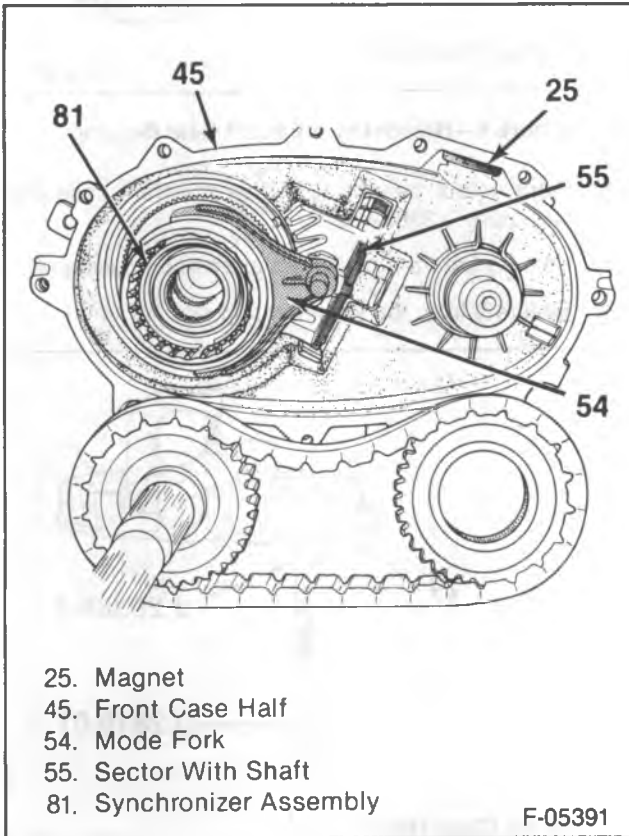
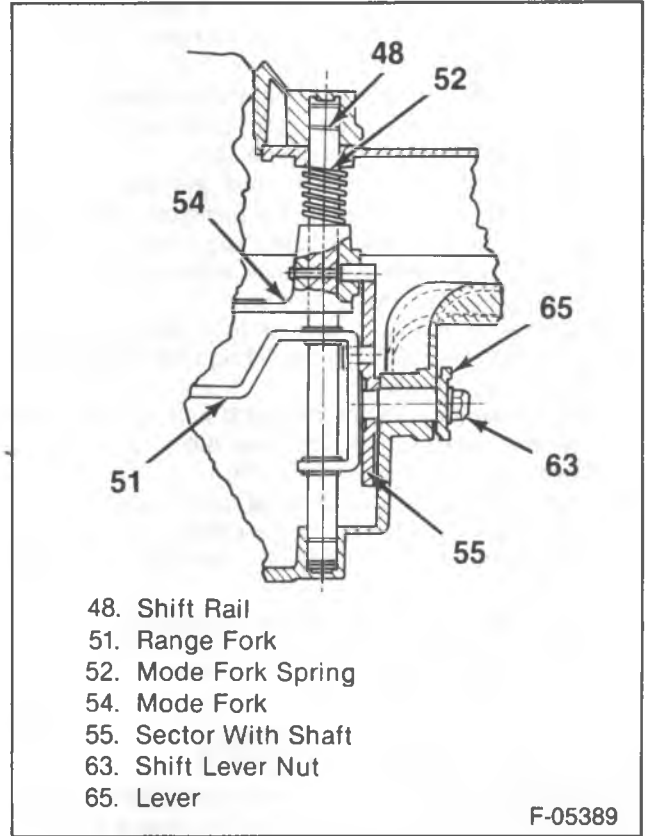
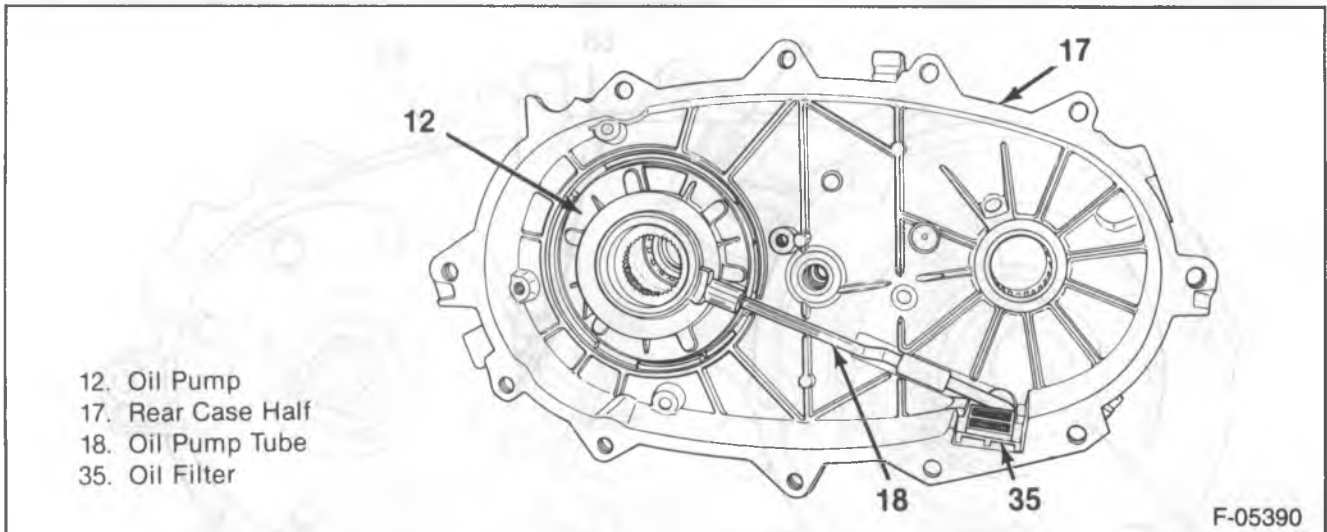
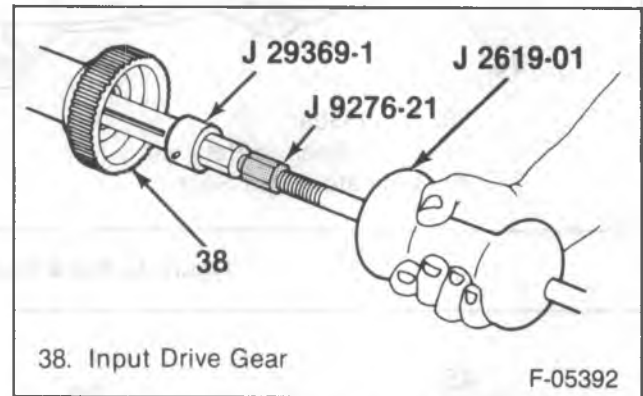

Figure 5—Mode Fork and Shaft Assembly
Figure 6—Shift Rail Assembly
Figure 7—Pump Housing Installation
Figure 8—Removing the Input Gear Bearing
Remove or Disconnect (Figures 5, 6 and 7)
1. Oil pump (12), pickup tube (18), O-ring (14) and pump pickup filter (35) from the rear case half (figure 7).
2. Fork shift spring (52).
3. Retainer (snap ring) (23) from the front output shaft (21).
4. Mainshaft (19), chain (58), and driven sprocket (22) from the front case half (45) as a unit. Mode shift fork (54) and shift rail (48) will be removed with the mainshaft.
5. Retainer (snap ring) (41) from the mainshaft (19).
6. Synchronizer assembly (81). Drive sprocket (20) from the mainshaft (19) (figure 5).
7. Range shift fork (51) and range shift hub (34) and sector with shaft (55) from the planetary carrier (36).
- It is necessary to rotate the sector with shaft (55) to obtain clearance when removing the range fork (51) (figure 6).
8. Shift lever nut (63), washer (64), shift lever (65), plastic washer (66) and the O-ring seal (67) from the front case half (45).
9. Input bearing retainer bolts (43) and input bearing retainer (44) from the front case half (45).
10. Bearing retainer (snap ring) (39).
11. Planetary carrier (36) and the input gear (38) from the annulus gear (62) using a soft faced hammer.
12. Retainer ring (snap ring) (41) from the input gear (38).
13. Input bearing (40) from the input gear (38) with J 22912-1 (Bearing Remover).
- Carrier lock ring (78).
- Thrust washer (37).
14. Drive sprocket bearing (82) from the drive sprocket (20) using J 29369-1 and J 2619-01.
15. Needle bearings (84) from the input gear (38) using J 29369-2, J 9276-21 and J 2619-01 (figure 8).
16. Front output bearing retainer ring (snap ring) (60).
17. Front output shaft seal (72) from the front case half (45).